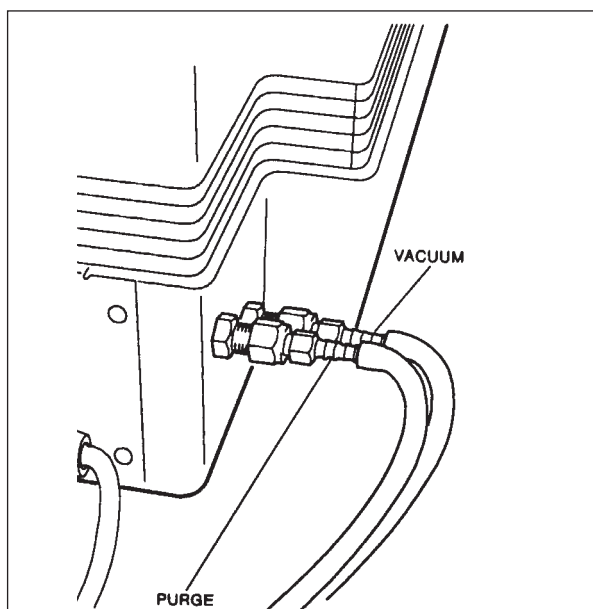

Figure 2.6
1. Locate the PURGE fitting on the right side of the DSC 2920 CE back (see Figure 2.6).
1. Locate the VACUUM fitting on the right side of the DSC 2920 CE back (see Figure 2.6).